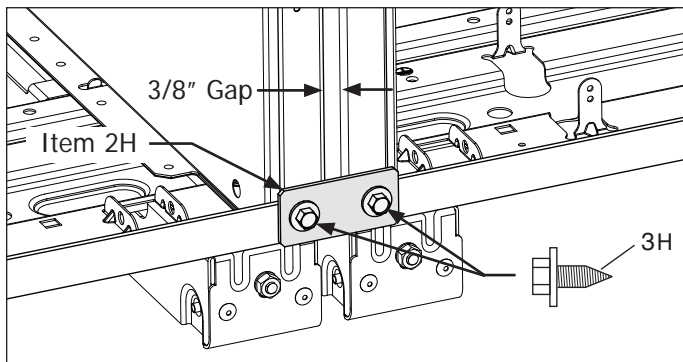

Figure 2-16.
5. a. Tie units together by securing the mounting bracket at the back of the units with a 3/8" socket. (See Figure 2-16).